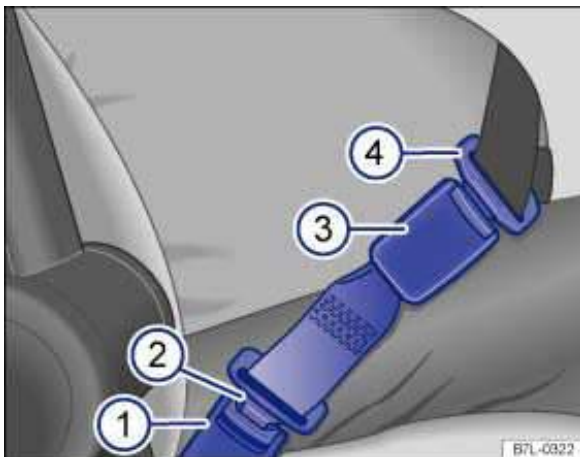

Fig. 57 A safety belt extender properly attached to the factory-installed safety belt.
Key to fig. 57:
- Insert the buckle tongue on the safety belt extender ⇒ fig. 57 \(2\) into the vehicle belt buckle for the seat where the safety belt extender is being used \(1\).